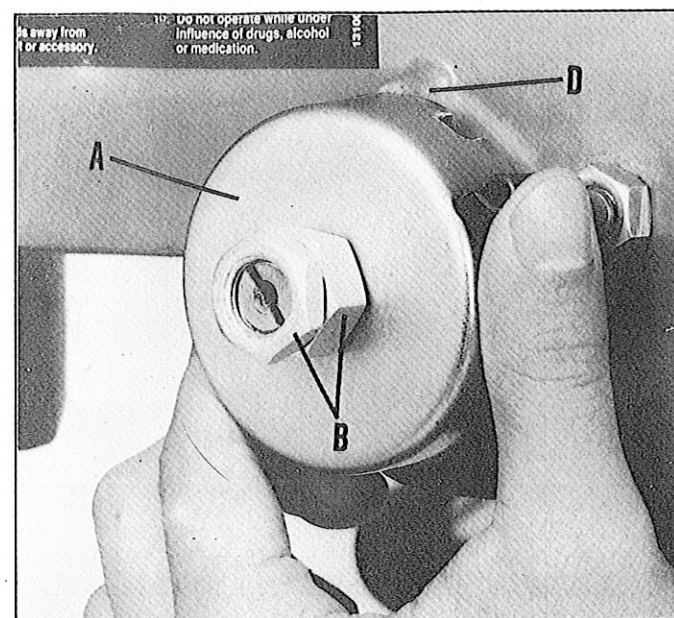

Fig 33
3. While firmly holding spring housing (A) Fig. 33, pull out housing and rotate it until the boss (D) is engaged with the next notch on the housing. Turn the housing counter-clockwise to increase and clockwise to decrease spring tension. Then tighten the two nuts (B) Fig. 33, to hold the housing in place. Important: Nuts (B) Fig. 33, should not contact spring housing (A) when tight.